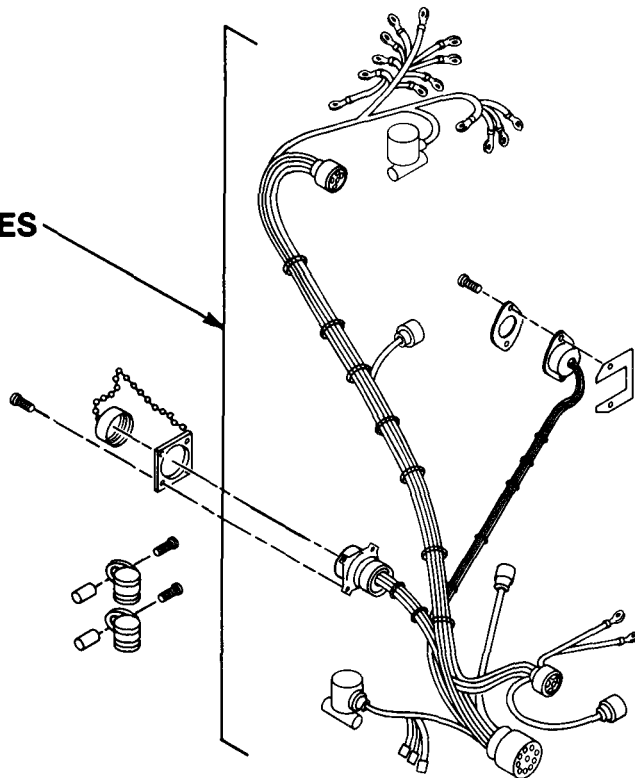

Figure 4-39. Wiring Harness
(1) See paragraph 4-27 for general wire repair instructions.
(2) See table 4-3 (Wire List) for wire lengths and terminal/connector information.
c. Removal/Installation. See figure 4-39 for removal/installation information.